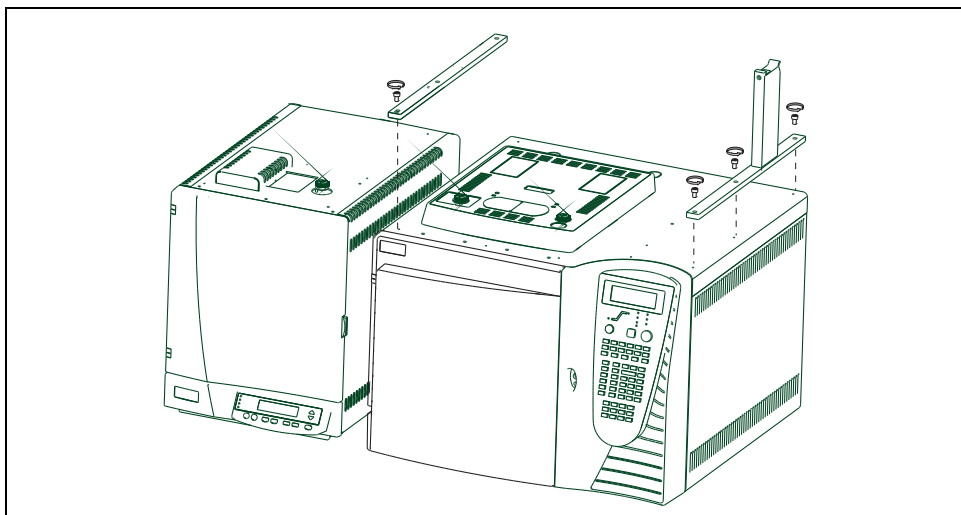

Figure 3-14. Sampler Supports Installation on a TRACE GC Ultra and a FOCUS GC
7. Guide the fixing screws into the corresponding fixing holes, then tighten the fixing screws as shown in Figure 3-14.